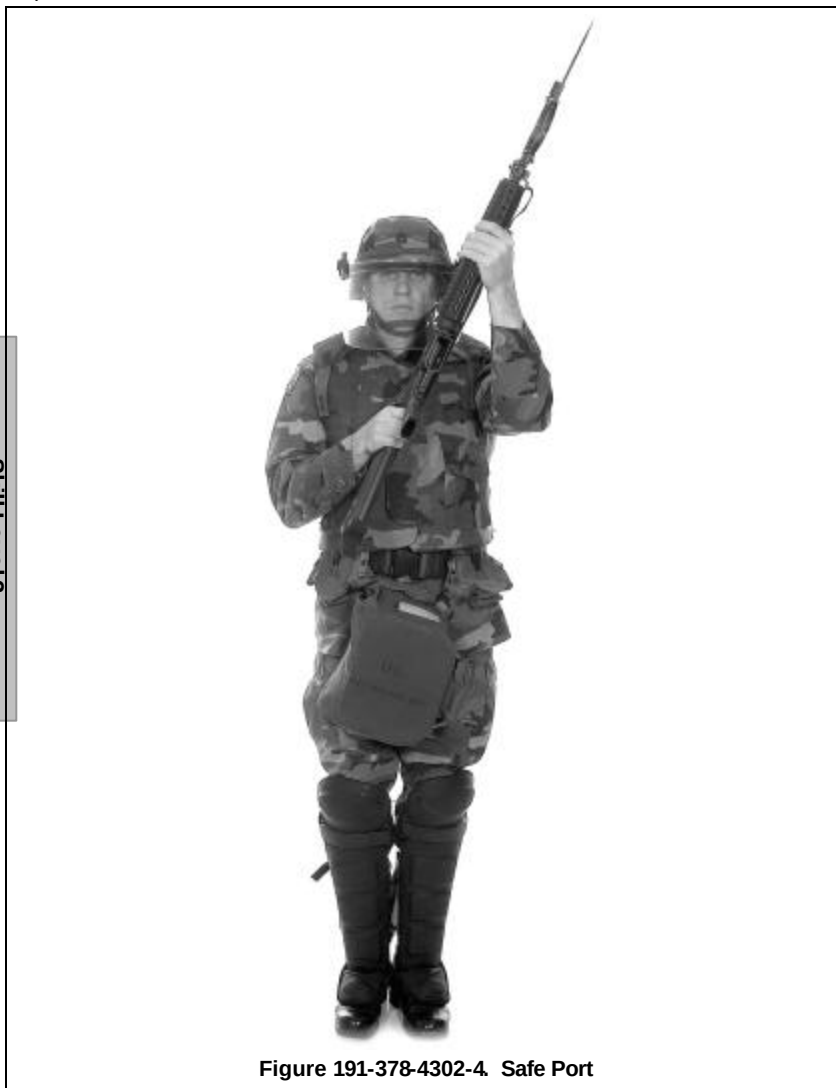

Figure 191-378-4302-4. Safe Port
- a. Safe port. Use when making a show of force (figure 191-378-4302-4).
- b. Safe guard. Use for semi-readiness (figure 191-378-4302-5).